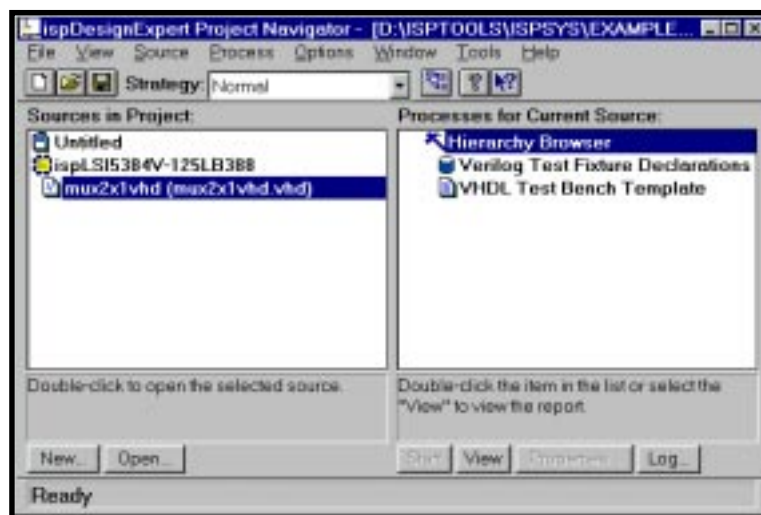

Figure 3-19. Project Navigator Window with a VHDL Module File Imported
- The selected VHDL file appears in the Sources in Project list of the Project Navigator as shown in Figure 3-19.